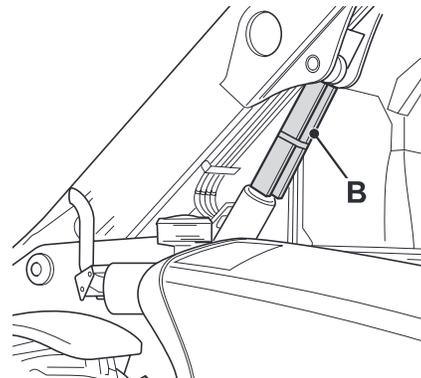

Fig 181.
- 5 Place the strut **A** around the lift ram piston rod. ⇒ Fig 181. \(□ 193\). Secure it in position.